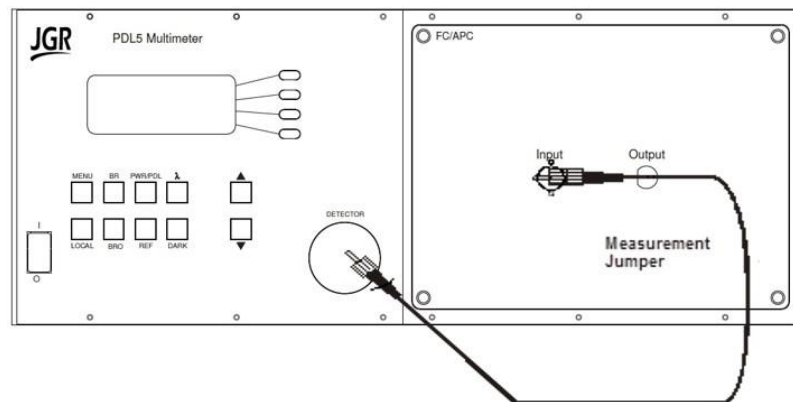

Figure 9: PDL, Loss and Power Measurements
9. Press REF key to take both ILa and PDL references. The display reads 0.00 dB for both measurements. The loss and PDL of the measurement jumper are subtracted from the DUT loss or power measurement to be made (see Figure 9).
12. Press REF key to switch to relative power mode and take a reference. The display reads 0.00 dB. The loss of the measurement jumper is subtracted from the DUT loss or power measurement to be made (see Figure 9).